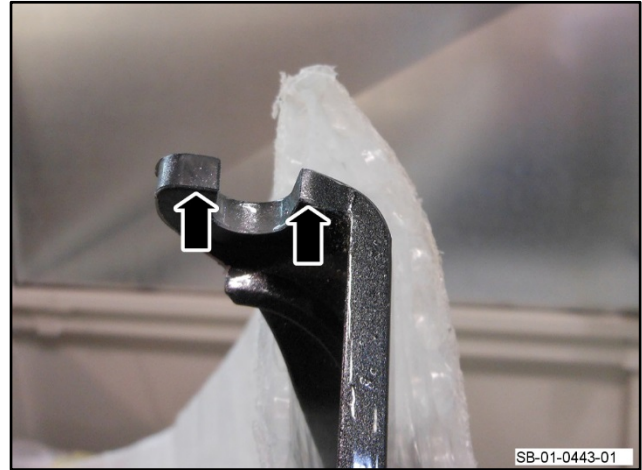

Figure 1
8. Do a check that there is not a quantity of paint on the two ends of the rear spoiler where it engages with the white bearings of the spoiler guide assemblies (there must be no paint on the two ends of the spoiler – refer to Figure 1).